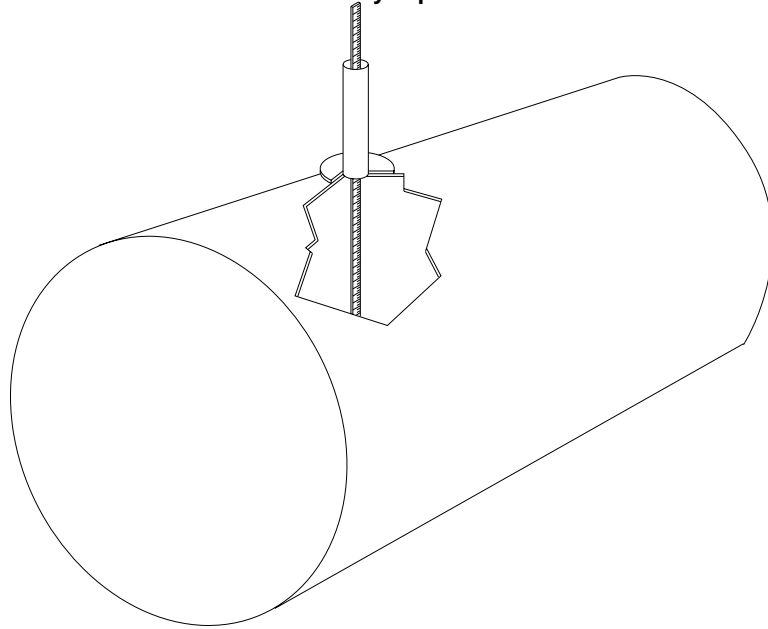

Figure 2.3 Measuring tank
- 2: Measure the distance from the bottom of the tank to the top of the 4-inch riser pipe shown in figure 2.3.